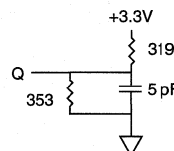

Fig. 2 OUTPUT LOAD EQUIVALENT
- t_{HZCE}, t_{HZOE} and t_{HZWE} are specified with CL = 5pF as in Fig. 2. Transition is measured ±200mV from steady state voltage.
- The test function pin (TF) can be treated as a no connect pin. However, it is recommended that the pin be grounded.